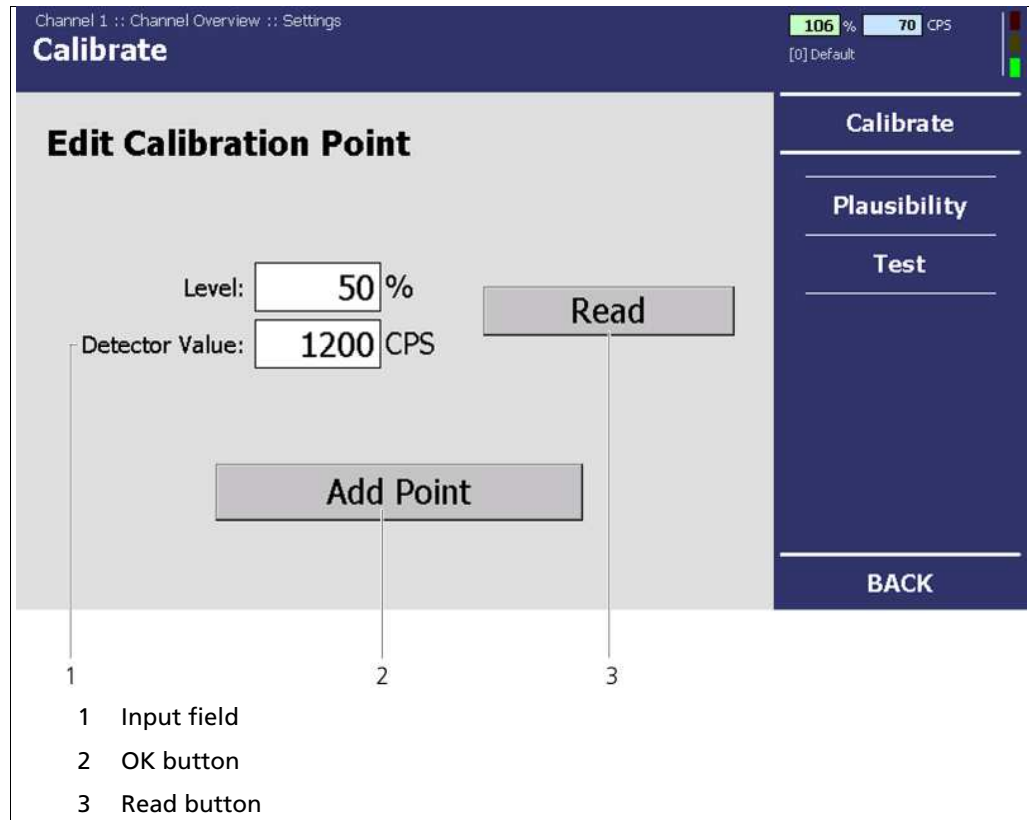

Fig. 56 System Menu, Settings - Calibration (Adapt Calibration Point)
- ⇒ The input field "Adapt Calibration Point" opens (Fig. 56).
4. When you add a new point, click on the input field "Fill Level" (Fig. 56, Pos. 1) and enter the corresponding fill level (e.g. 50% or 100 mm).
5. Click on **<Read in>** (Fig. 56, Pos. 3) to read in a new calibration point or enter the count rate into the "Detector Value" input field manually (Fig. 56, Pos. 1).